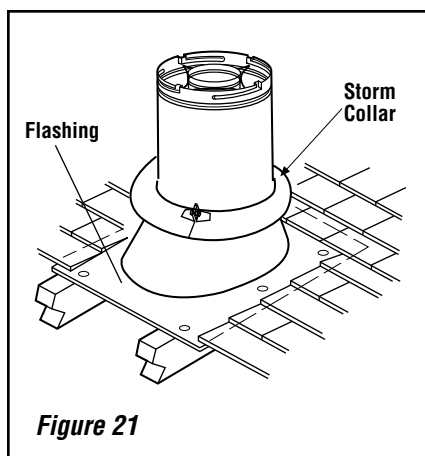

Figure 21
I. Install the roof flashing - Extend the vent sections through the roof structure. Install the roof flashing over the vent section and position such that the vent column rises vertically (use carpenter's level) (**Figure 21**). Nail along perimeter to secure flashing or adjust roofing to overlap the flashing edges at top and sides only and trim where necessary. Seal the top and both sides of the flashing with waterproof caulking.
J. Install the storm collar - Install the storm collar, supplied with the flashing, over the vent/flashing joint (see **Figure 21**). Loosen the storm collar screw. Slide collar down until it meets the top of the flashing. Tighten the adjusting screw. Apply non-combustible caulking or mastic around the circumference of the joint to provide a water tight seal.